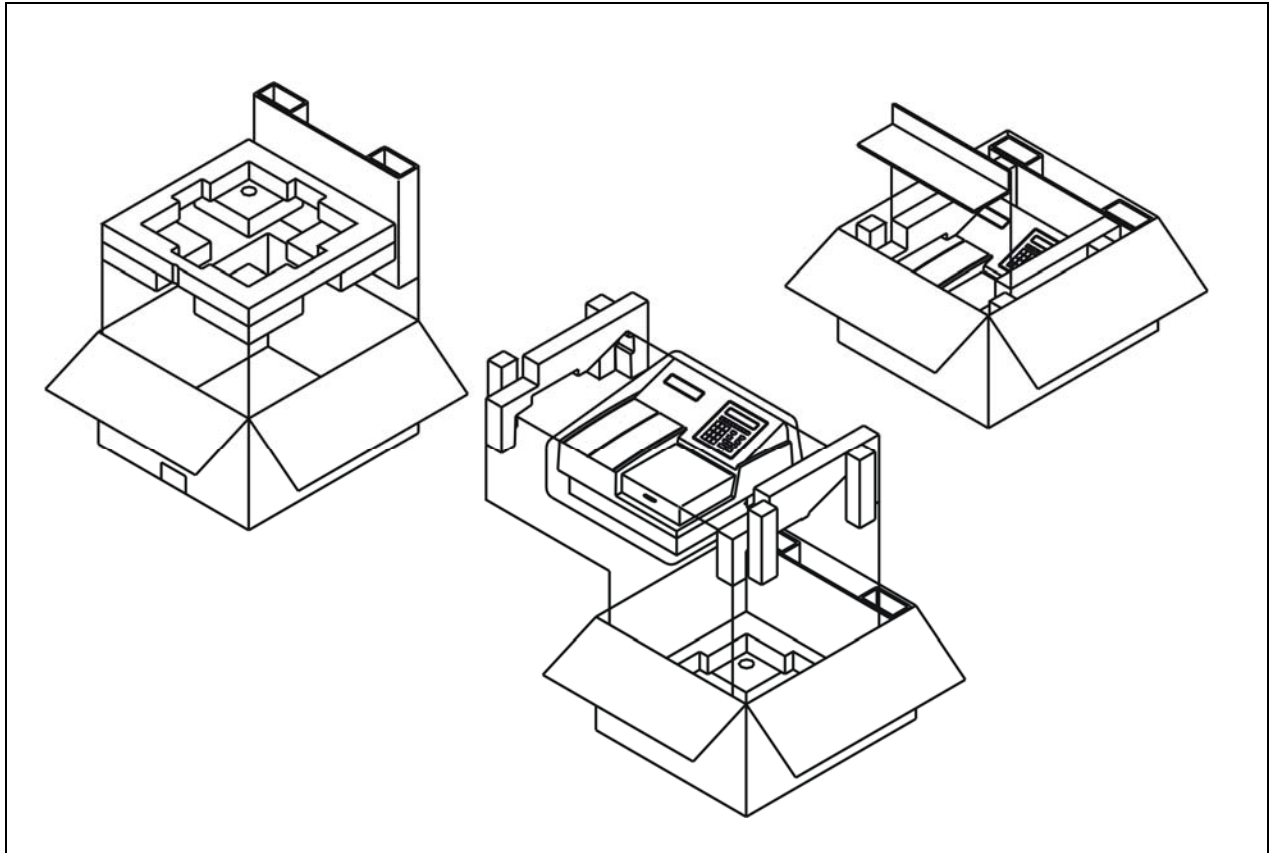

Figure 1: Unpacking the ELx808
1. (Refer to **Figure 1** on the next page.) Carefully open the top of the box, and remove any accessories. These include a power cord and power supply, a filter wheel in a padded envelope, and an operator's manual.